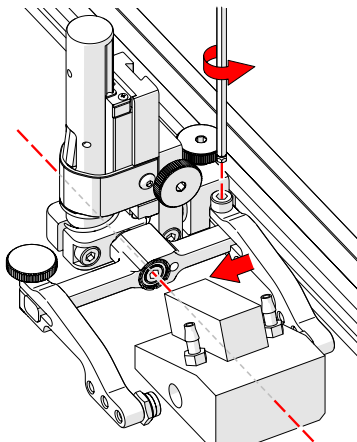

Fig. 129 - Adjust inner arm
4. Position the wedge on the inner probe holder arm (Fig. 129).
TIP: The probe holder yoke can accommodate many different probe and wedge sizes of varying widths. It is best to centre the wedge with the yoke's pivot axis. This can reduce wedge 'rocking' when scanning. Position the inner probe holder arm accordingly (Fig. 129) using the supplied 3 mm hex driver (Fig. 44).